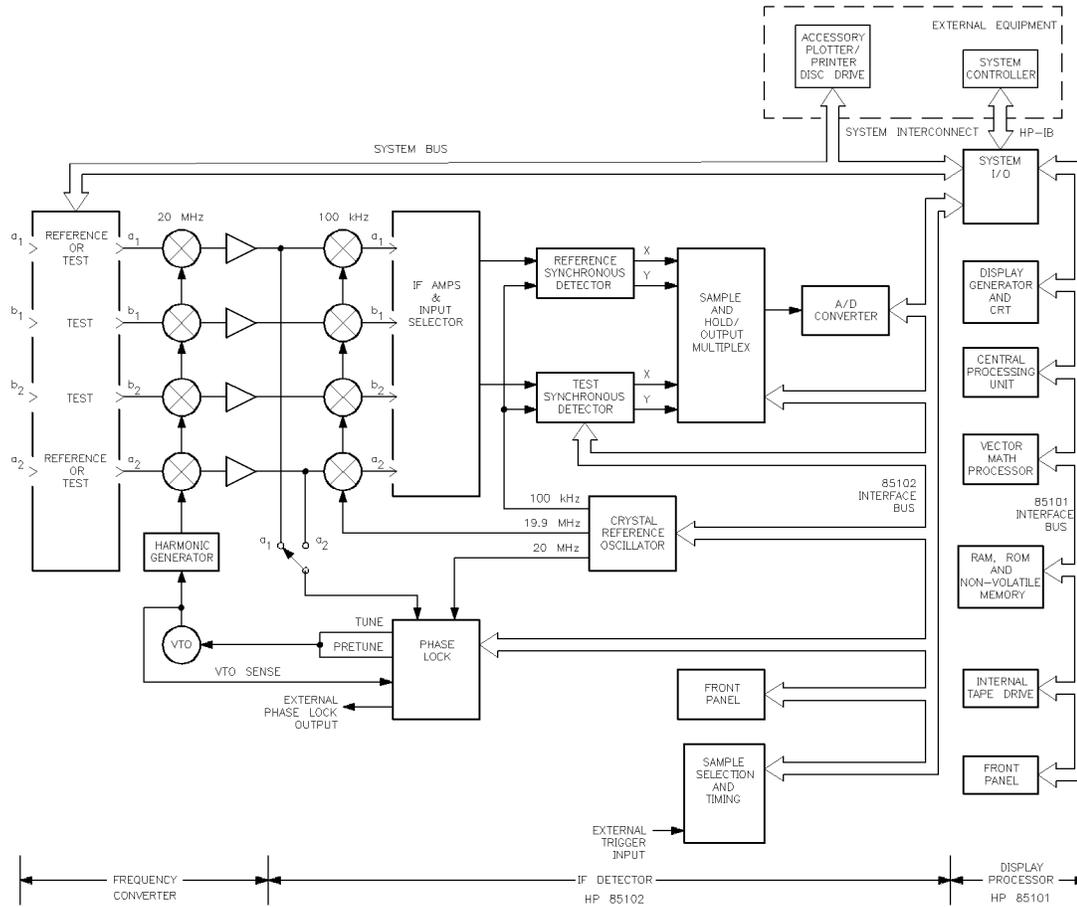
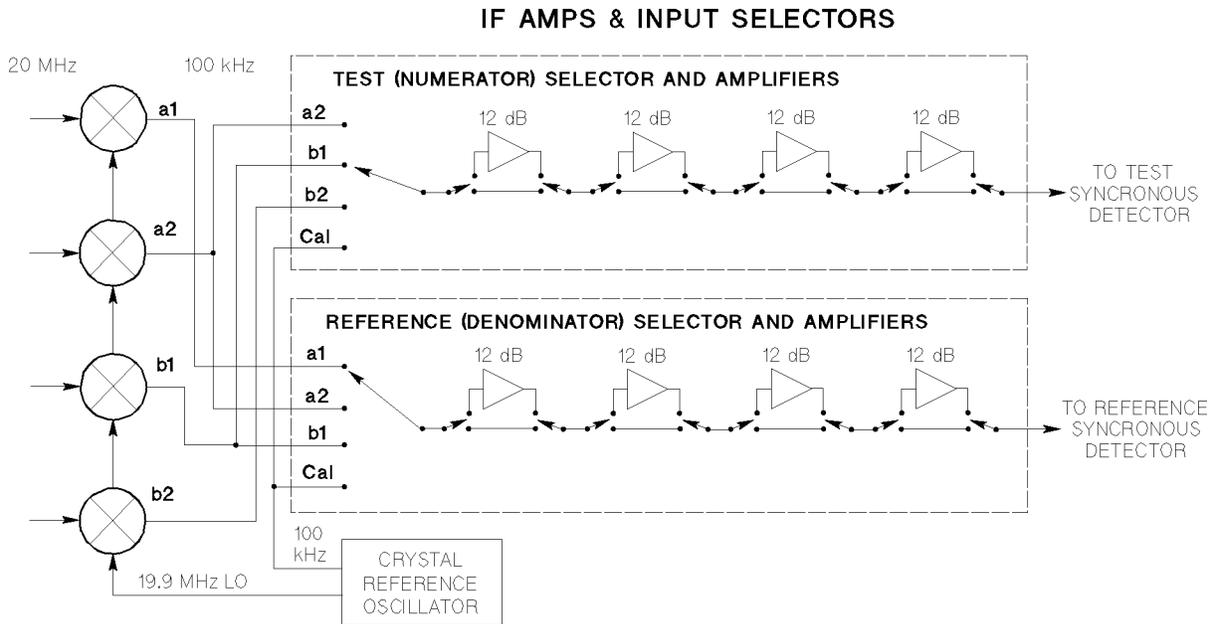

Figure 17-12. Simplified Block Diagram of the HP 8530A Receiver
Figure 17-13. Gain Stages in the IF section
- Changes the amount of IF gain so the detectors and A/D converter operate with optimum accuracy (refer to Figure 17-12).
Why the problem occurs. When the receiver measures a data point, automatic IF gain control detects the power at the input. Assume (for example) that this is a very low power level. The gain control increases IF gain to amplify the signal. This allows the synchronous detectors and A/D converter (shown in Figure 17-12) to operate in their most accurate range. Now assume the receiver measures the next data point, and the power level is much higher. The IF gain stages are still set for the previously-measured low power level. When the large signal arrives, it is amplified greatly and will often overdrive the detectors. The error message “IF OVERLOAD” appears when this occurs.
Figure 17-13 shows a block diagram of the IF gain stage.
Note the block in Figure 17-12 titled "IF AMPS & INPUT SELECTOR," it is this section we will be looking at more closely in Figure 17-13.
You will notice that, in Figure 17-12, the 100 kHz mixers are shown as having only a single output each. This is not really true. Figure 17-13 shows a closer representation of the actual circuitry. The different signals (a1, a2, b1, and b2) are split off and routed to *input selectors*. When you select a specific parameter, a ratio such a b1/a1 is selected. The receiver automatically selects the correct positions on the input selector to send the b1 signal to the test channel, and a1 to the reference channel.